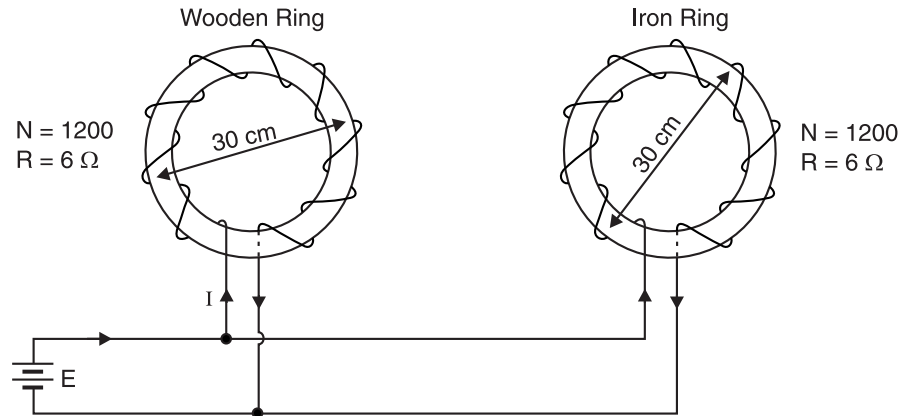

Fig. 8.13
**Example 8.9.** An angular ring of wood has a cross-sectional area of  $4 \text{ cm}^2$  and a mean diameter of 30 cm. It is uniformly wound with 1200 turns of wire having a resistance of  $6 \Omega$ . The core of the second ring, with same dimensions and similarly wound, is made of a magnetic material of relative permeability 50. When the two windings are connected in parallel to a battery, the sum of the two fluxes in the two cores is  $0.2 \text{ mWb}$  [See Fig. 8.13]. Find the terminal voltage of the battery.